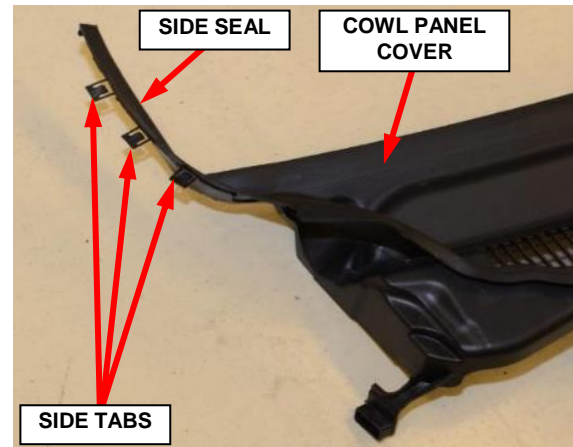

Figure 32 – Cowl Panel Cover Clips
6. Tuck the side seals up under the fenders and seat fully (Figure 32).
7. Seat the side tabs fully (Figure 32)